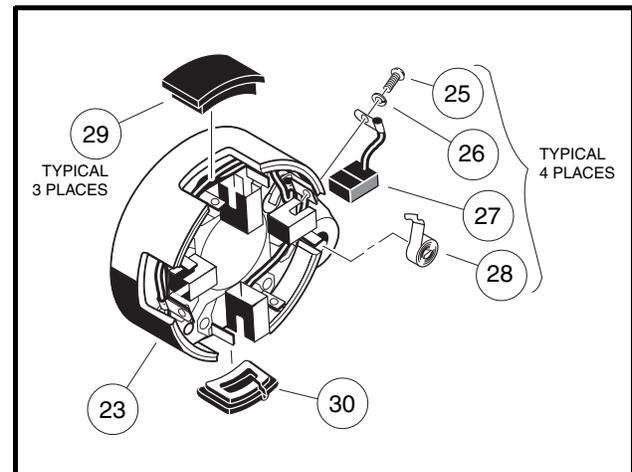

Figure 12-3 Brush Covers and Brushes
2. Remove brush covers (29 and 30), screws (25) and lock washers (26), brush springs (28), and brushes (27) (Figure 12-3, Page 12-2). See following NOTE.
2. Install the four brushes (27) into their holders and insert the four brush springs (28) (**Figure 12-3, Page 12-2**). Using a spring scale, test brush spring tension. If any spring has a tension less than 24 ounces (6.67 N), replace all four springs (**Figure 12-5, Page 12-3**). **See following CAUTION.**
1. Connect the brush wires to the holders using four lock washers (26) and four screws (25), making sure the crossover leads are connected also. Tighten the screws to 31 in-lb (3.5 N·m) **(Figure 12-3, Page 12-2)**.
4. Push the brushes down into the holders. Position springs into the notches in the brushes. Install the brush cover (30) that has the drain hole in it next to the A2 terminal. Install the remaining three brush covers (29) in the openings in the commutator end cover (23) **(Figure 12-3, Page 12-2)**.
10. Push the brushes down into the holders. Place springs into the notches in the brushes. Install the brush cover (30) that has the drain hole in it next to the A2 terminal. Install the remaining three brush covers (29) in the openings in the commutator end cover (23) (**Figure 12-3, Page 12-2**).